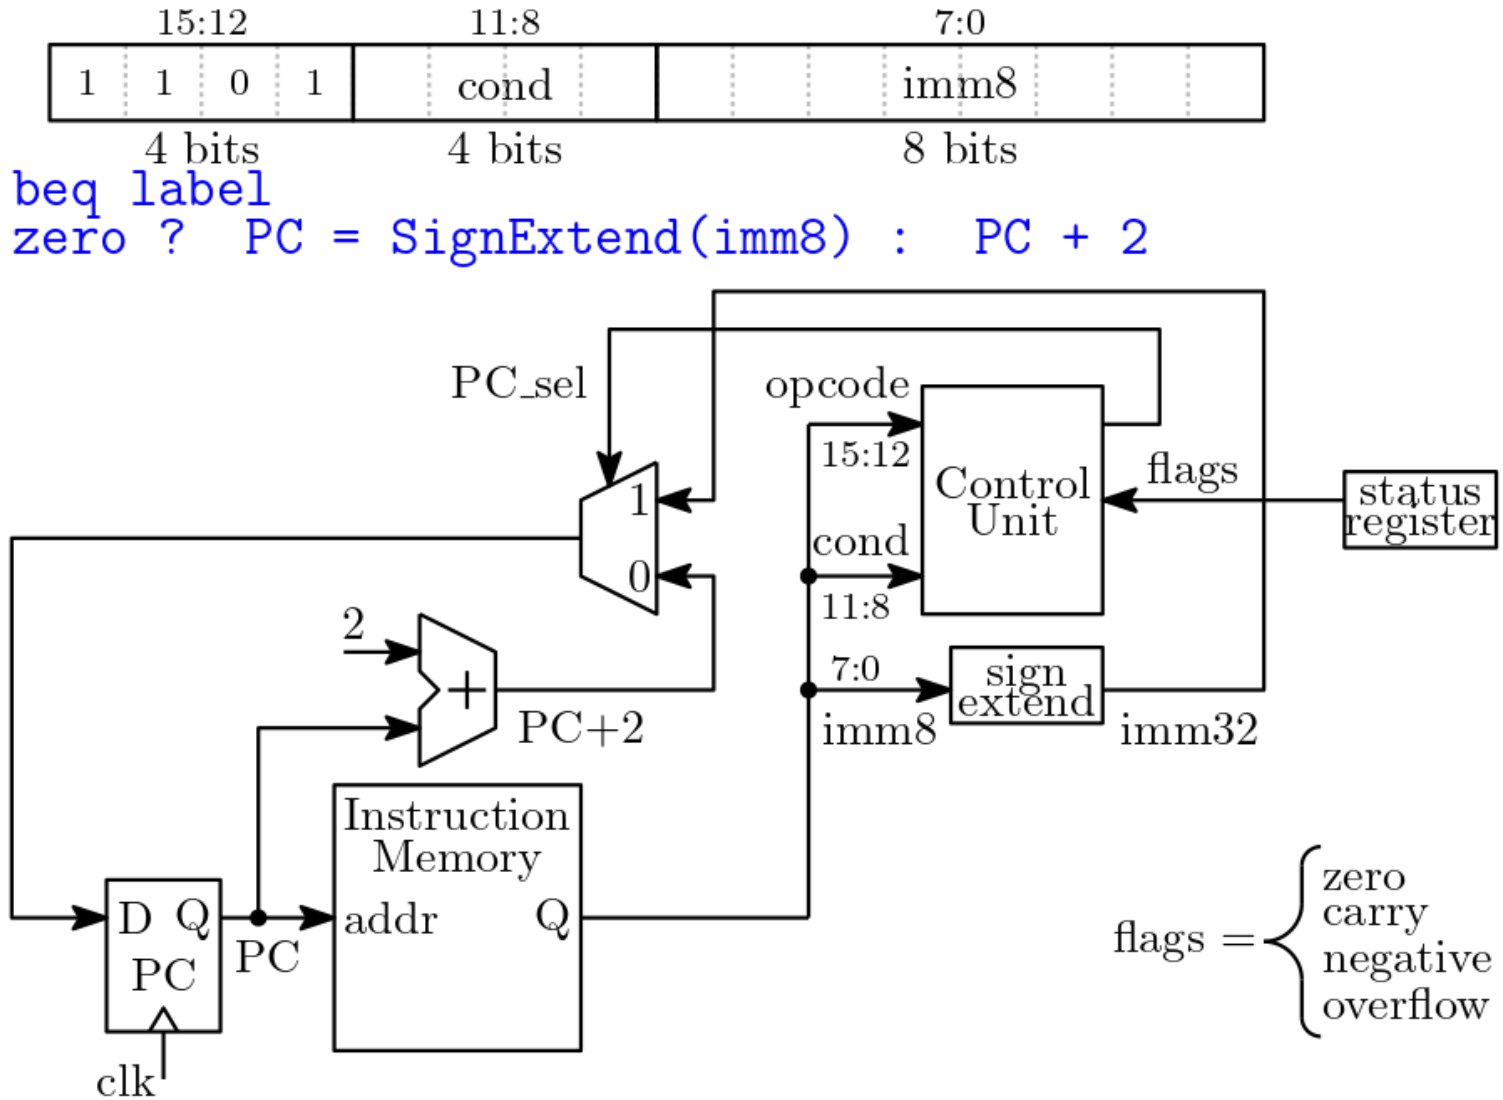
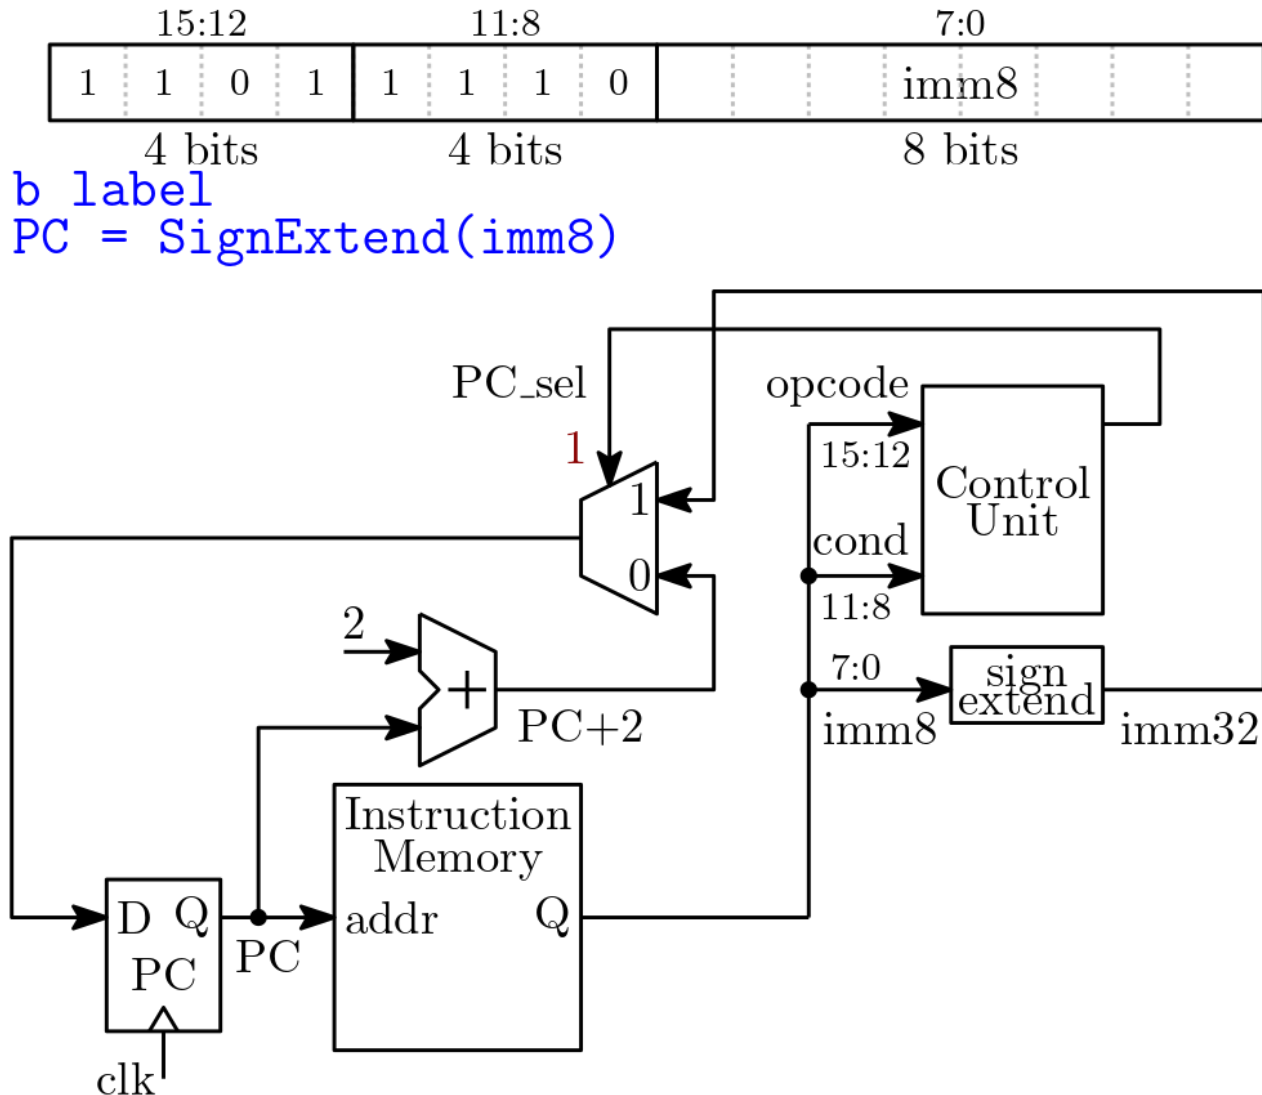

Figure 26: Conditional branch datapath.
Figure 29: ARMv6-M unconditional branch datapath.
- Include elements from Figure 26 and Figure 29.